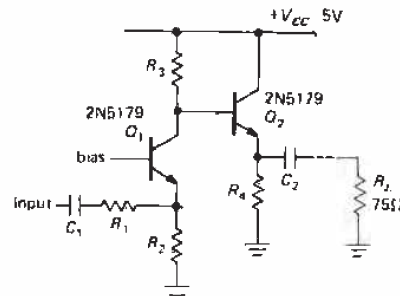

Figure 13.63
(5) Design a video amplifier with a gain of +5 and a rolloff of 20MHz or more. The input impedance should be 75 ohms, and the output should be able to drive a 75 ohm load with 1 volt pp output capability. A nice way to achieve the noninverting gain is to use a common-base input stage with an emitter follower output, as suggested in Figure 13.63. If you like the circuit, finish the design by choosing operating currents, resistor values, and biasing components. You can, of course, use something like a differential amplifier/cascode/follower combination, if you prefer. Note that the gain must be noninverting, or the image will be reversed.